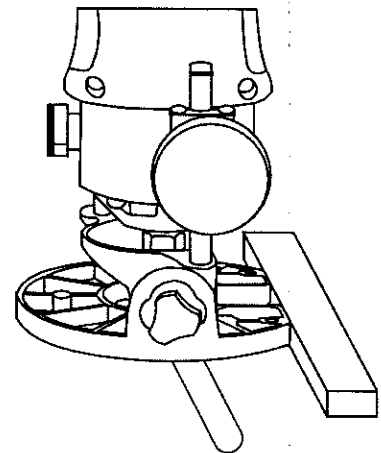

Fig. 19
1. Draw a line on the workpiece where you wish to make the cut (see Fig. 19).